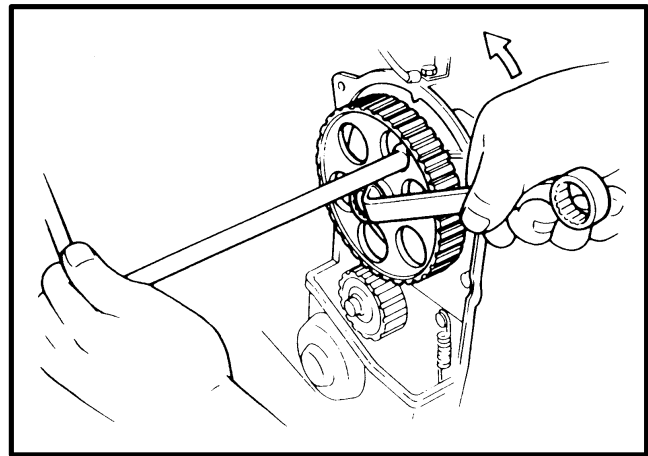

FIGURE 2. REMOVE THE CAMSHAFT GEAR
10. See FIGURE 2. Remove the camshaft pulley. Prevent rotation of the pulley and loosen the capscrew. Remove the capscrew and the pulley.